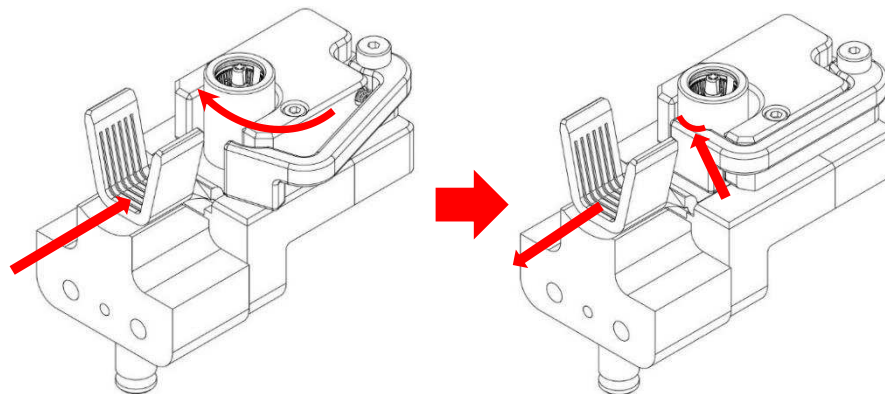

Figure 3
1. Insert the terminal into the Terminal Holder and push the terminal against the Extrusion Pin (spring-loaded pin inside the Terminal Holder). Hold the terminal in that position while rotating the Terminal Lock fully clockwise. Releasing pressure on the terminal will now allow it to rest against the lock in the crimping position (see Figure 3). **Note:** The Terminal Lock will automatically release after the terminal is crimped.